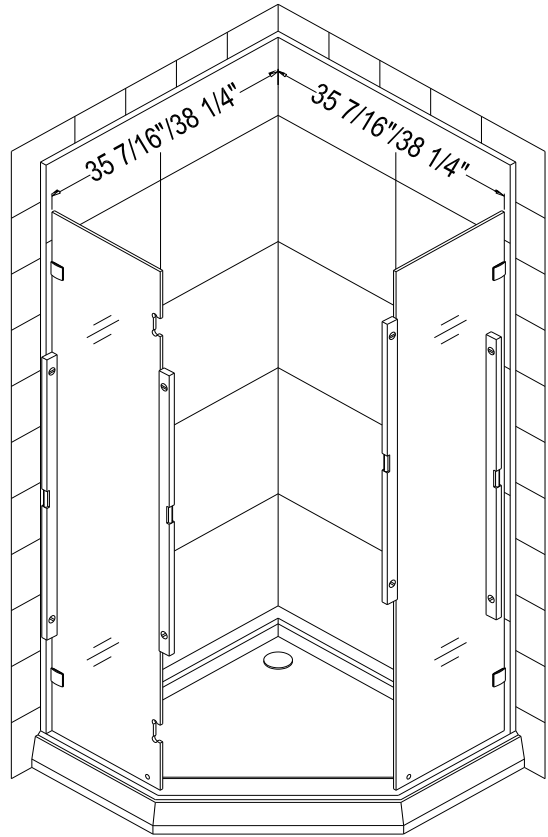

Fig. 2
2. Place the **Stationary glass panel** with attached **Wall Brackets** to the designated position on the threshold or tray, make sure it's leveled and plumbed and mark the position of the **Wall Brackets** on the wall. See fig. 2 for details.